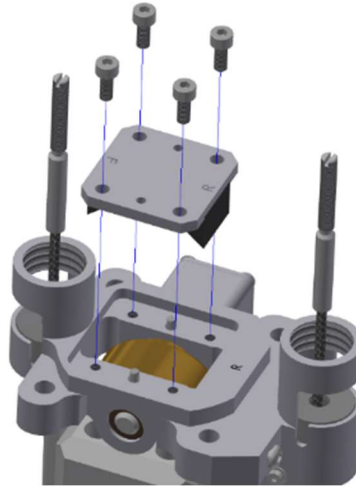

Figure 4-49. Place Flexion/Extension stop assembly into head/neck mounting platform (474-2302-A)
- 4.3.20 Insert the Flexion/Extension Stop Assembly (474-2115-A) into the head/neck mounting platform (474-2302-A) and secure with four M4 X 0.7 X 10 FHCS (Figure 4-49).